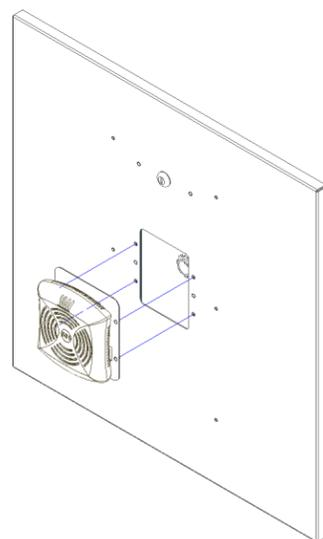

Figure 2 – Close-up showing installation of the access point attached to the Oberon receiver plate
Item 5 – The receiver plate has four keyway studs located on the bottom that will fit into the four 1/4" openings on the front of the enclosure. Align the keyway studs with the openings and guide the receiver plate into place. To lock the access point/receiver plate assembly in place, turn the key 180° clockwise (Reference Figure 2).